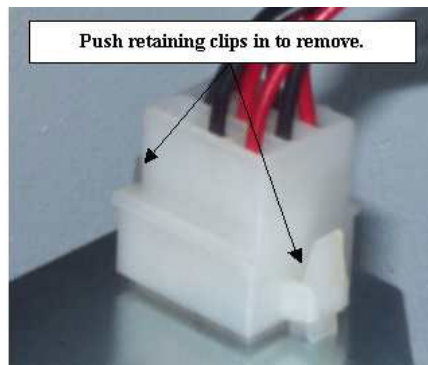

Figure 1 - Power Supply Interface Connector
2. Use a screwdriver or similar tool and push the retaining clips in and push the white 9-position connector out of the power input assembly plate as shown in Figure 1 above.
3. Push the replacement interface harness connector in place in the same position as shown in Figure 1 above.
4. Install the replacement harness to the top wiring block as shown in Figure 1 above. The V- and V+ leads are interchangeable with like labeled V- and V+ leads. Tighten the screws in the wiring block just enough to hold the wire connectors securely.